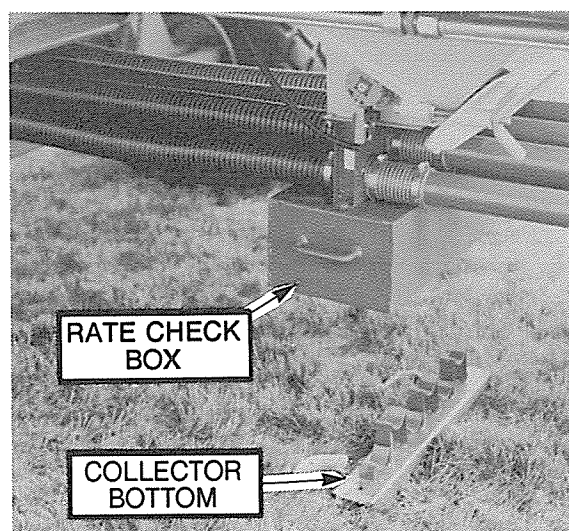

Figure 29 - Collector Bottom Removed
- (c) Remove the bottom of the collector. (See Fig. 29).
- (g) Slide rate check box on to the collector body. (See Fig. 29).